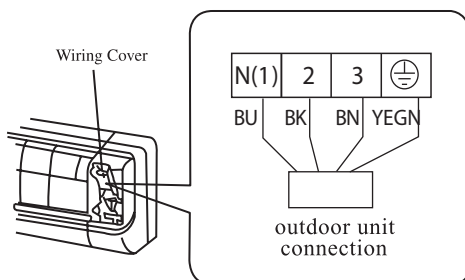

Fig.6
2. Remove the wiring cover Fig 6.